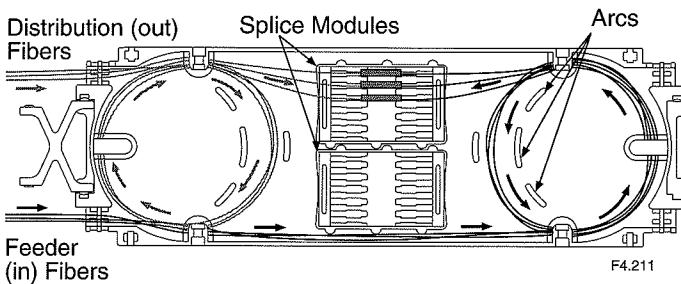
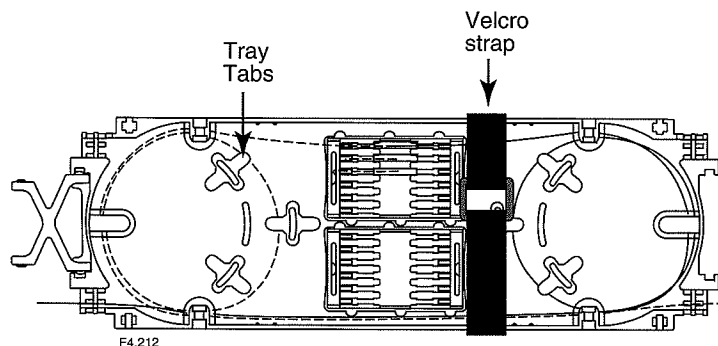

Fig. 22 Storing splices in "top" module
Fig. 24
3. Insert splices in the “top” and “bottom” splice modules and store slack fiber on the trays as shown in Figure 22 and 23. Install tray tabs if required (see Figure 24).
5. Secure all trays to the bottom tray bracket with velcro strap as shown. (Figure 24)